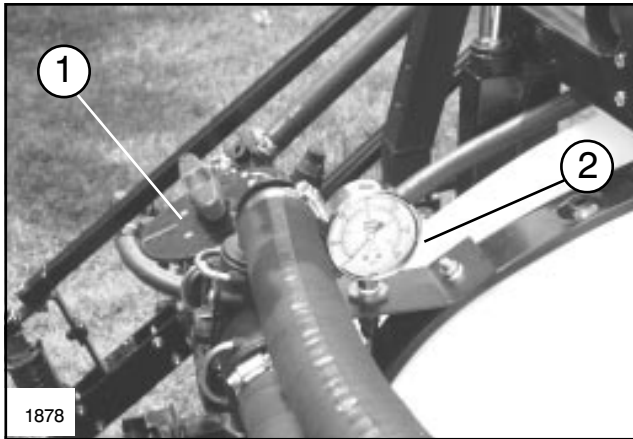

FIG. 4
7. AGITATION CONTROL VALVE: Directs fluid bypassed from Pressure Control Valve to Tank Agitation or Pump Suction with minimal affect on application rate. See FIG 4.